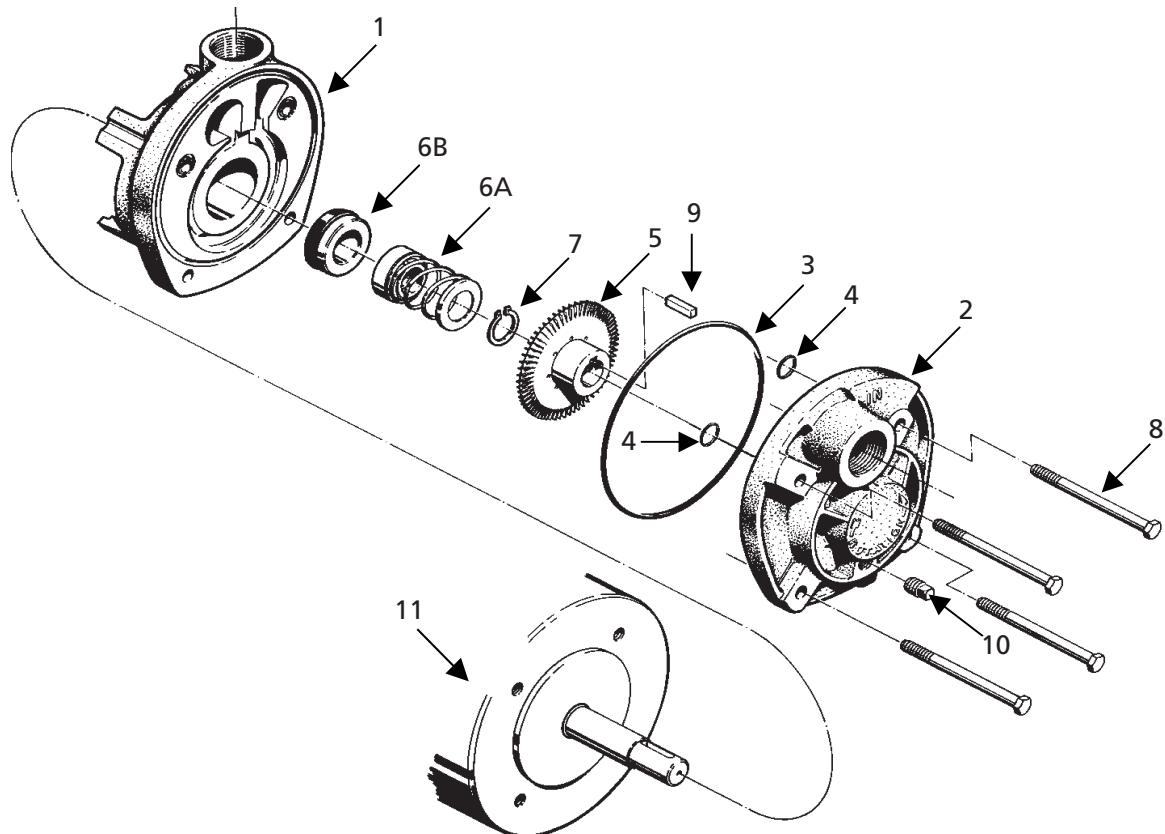

Figure 5 - Repair Parts Illustration
Refer to Figure 5 for reference to the numbered parts in the procedures below.
6. The impeller is a slip fit and should slide on firmly but easily until it stops against the impeller wearing surface. Force should not be required or used to install the impeller in the correct position. The impeller hub should be facing out away from the motor bracket. Refer to Figure 5.
8. Place the large "O" ring (Ref. No. 3) into the outside "O" ring groove in the motor bracket. Place the two (2) smaller "O" rings (Ref. No. 4) into the smaller "O" ring grooves.
9. Place the cover (Ref. No. 2) over the motor bracket and install the four (4) M6-1 X 80mm bolts (Ref. No. 8). Tighten the bolts systematically, alternating diagonally across the cover. DO NOT exceed 11 ft. lbs. of torque or damage to the motor "C"-face may occur.